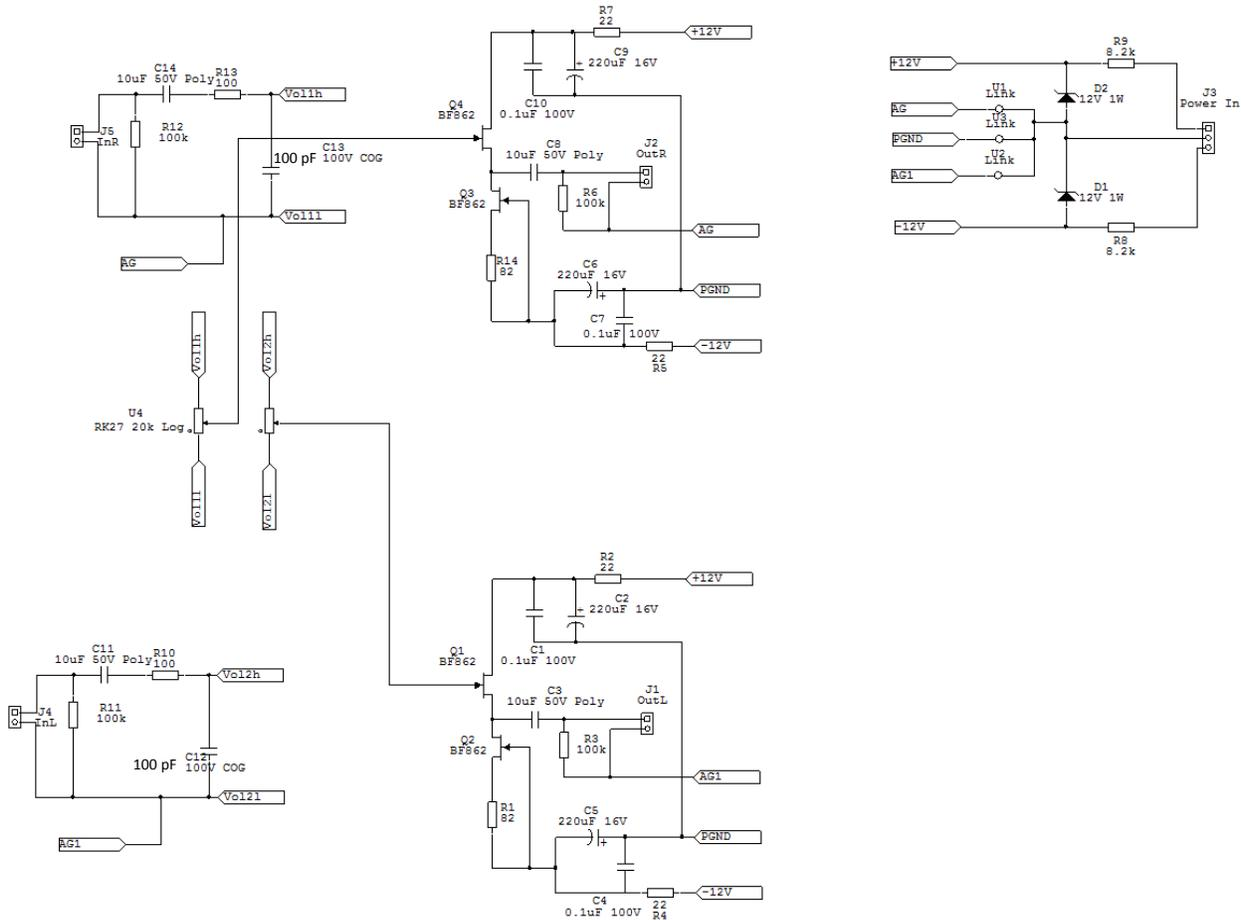
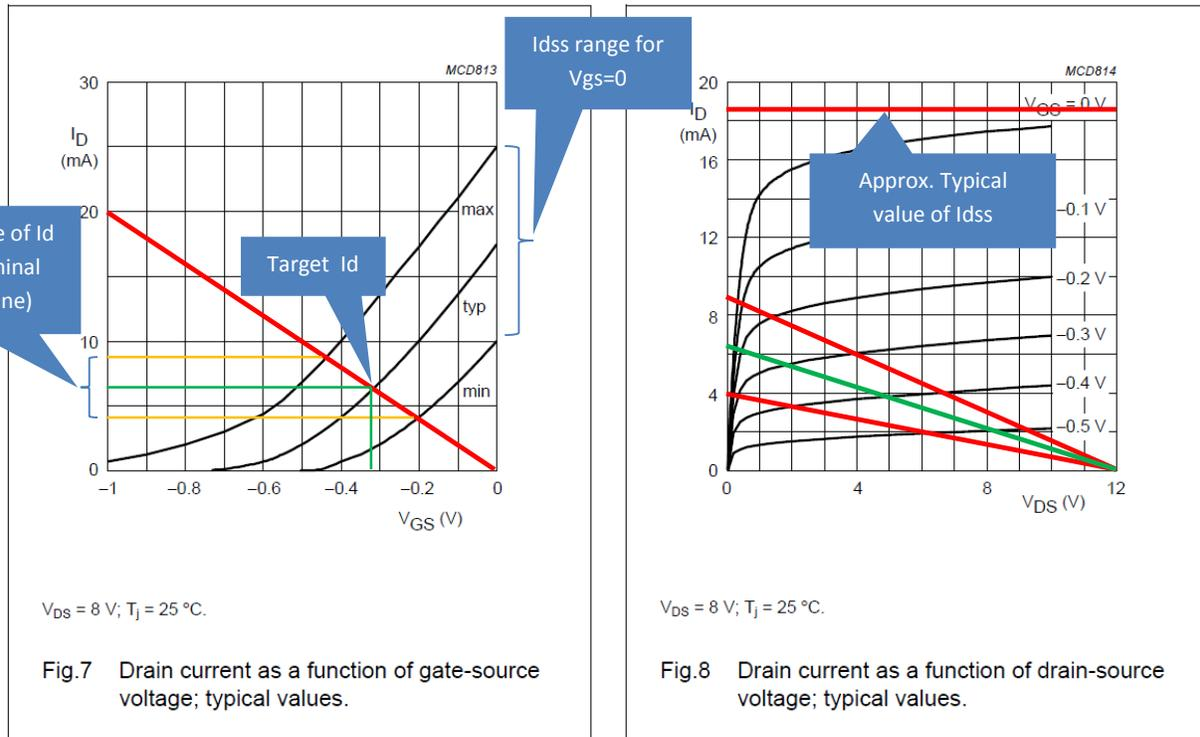
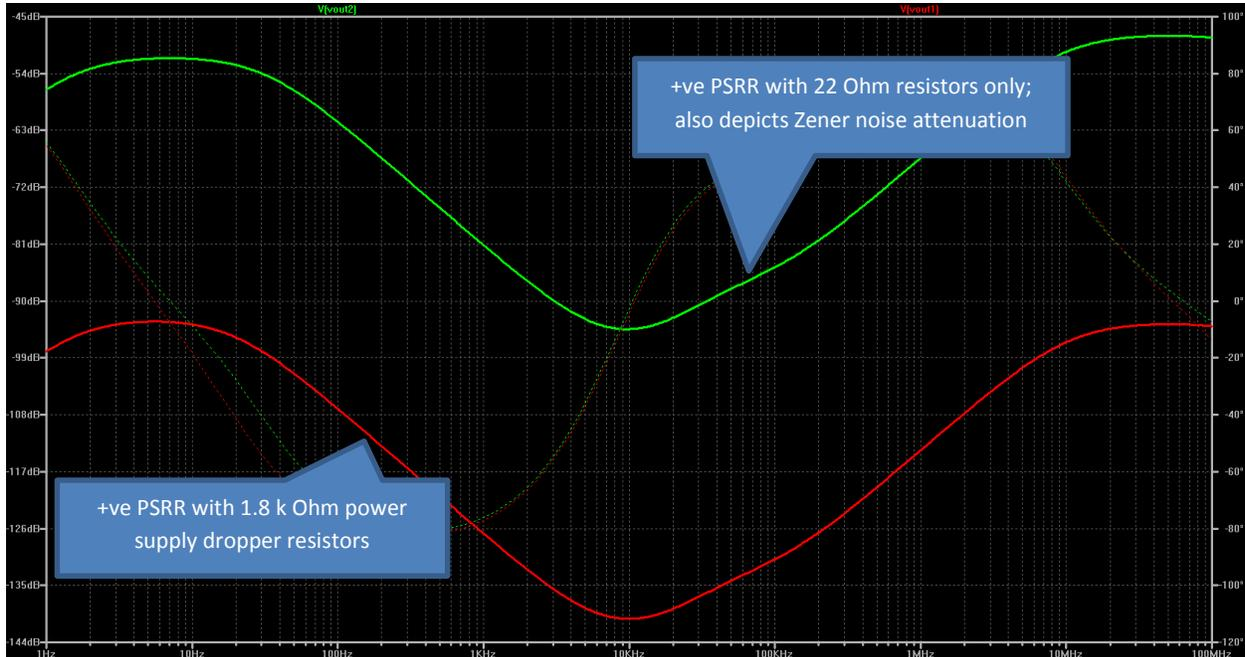

Figure 2 - UBx Circuit Diagram
Figure 3 – NXP BF862 JFET Bias Curves: how to set the operating point
Figure 4 - +ve PSRR for the UBx Buffer. The -ve PSRR is considerably better out to about 500 kHz
I looked at a number of different configurations – see Fig. 1 – and finally settled on the simple current source loaded follower you see in Fig. 3.
Distortion - Upper figures 2 V pk into 10k at 20 kHz; lower figures for 5 V pk into 10k
For the final circuit design, I went for a straight JFET current source loaded follower (Fig.2). I noted on sims, that using this simple buffer topology, low input capacitance JFETS gave remarkably good results: 1.5 V pk output at 20 kHz was < 10ppm, and the distortion spectra was 2nd with some 3rd and 4th only becoming apparent when the input was driven well beyond 2V pk output (see Fig. 4).
4. Circuit Description and Design Discussion (Fig 2)
JFET Operating Conditions. Figure 3 is a snapshot of the BF862 bias curves from the data sheet. Looking at the LHS panel, we see a set of 3 curves that prescribe the minimum and maximum variation in I_D vs V_{GS} . For our application, the maximum undistorted load current is 5V pk into 10k Ω – so 2mA. We also want to make sure that the maximum source current out of Q4 remains below the minimum I_{DSS} value of 10mA. If we then allow say 1mA to spare, this tells us the current source load needs to be somewhat below 7mA. Looking at the red line in the LHS panel, it can be seen that if we do not want to individually select the JFET's (i.e. just order them and place them on the board with a guaranteed good result) we have to ensure that at the upper I_D extreme (top curve in LHS panel), we do not exceed the I_{DSS} 10mA figure at 5V pk. Below that, we are ok, but have to accept that at >5V pk into 10k, there may be some additional distortion. 2Vpk will drive just about any power amplifier you can think of to full power and at that level, the distortion on this buffer is extremely low. We should conclude therefore that this is a sensible design tradeoff. Of course, you can always adjust the value of R1 and R14 individually to make sure that the current source is set to exactly 6.5mA – the target set above. With this information, its easy to now calculate the correct value of R1 and R14 from the typical curve from V_{GS}/I_D and we then get $0.32 \text{ V}/6.5 \text{ mA} = 49.2 \Omega$ – use 47 Ω standard value.
Power Supply. Each rail within each channel is generously decoupled with a 22 Ohm and 220 uF capacitor. For rail noise and ripple, the dropper resistor also appears in series with the 22 Ohm filter resistor. The PSRR when using 1.8 k dropper resistors is shown in the red trace in Fig 4, while the green one depicts the performance with just the 22 Ohm filter resistors.
Some Zeners are noisy² and the 220uF decoupling capacitors in conjunction with the 0.1uF devices and the 22 Ohm resistor ensure this is attenuated – the green trace in Fig 3 approximating just the Zener noise attenuation. In practice, these overall PSRR performance figures are not attainable because of layout and other noise coupling mechanisms, but they do serve to show that an active voltage regulator to power the buffer is not needed – so, in keeping with my generally minimalist philosophy in life, the Zener regulators are my choice for this design. Fig 4 is for the +ve PSRR performance and the -ve rail